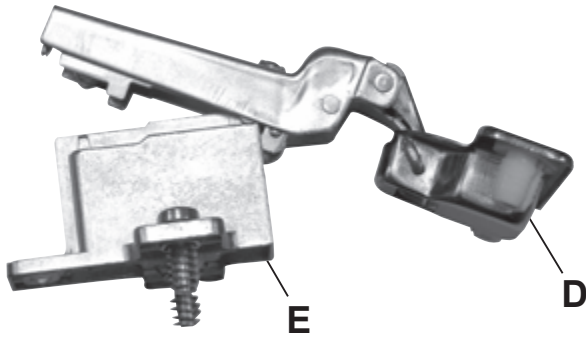

Fig. 1
1. Lay the Doors (A) face down on a clean protected surface. Snap the handle of the Hinge (D) down on to each of the Hinge Plates (E) as seen in Figure 1 and 1a.